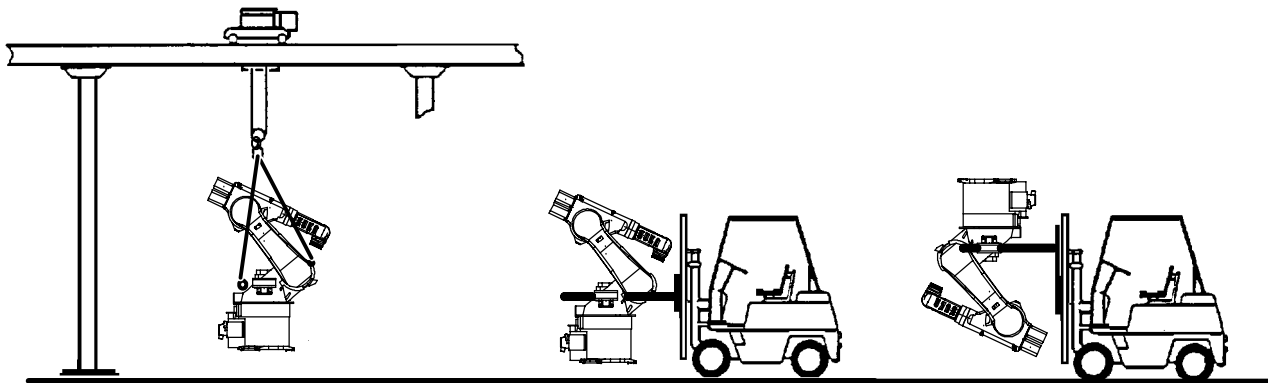

Fig. 38 Transporting floor-mounted and ceiling-mounted manipulators
- With lifting tackle and crane (Fig. 38, left-hand side)
- With fork lift truck (Fig. 38, right-hand side)